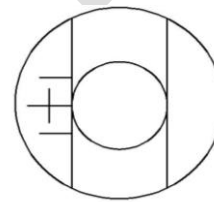

Fig .7-5
8.6 Rotate right drum, and make the right line with right edge indentation tangent (Fig.7-5).